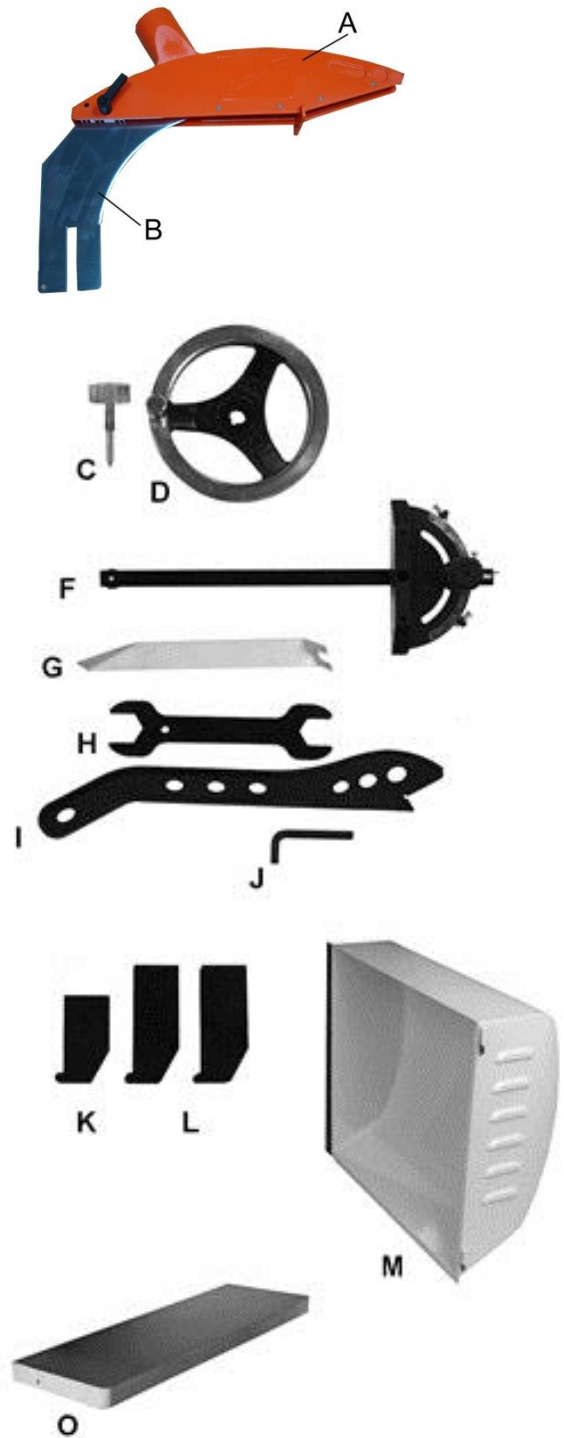

Figure 1
**Carton contents** (see Figure 1)
- 1 Hex key 8mm – **J**